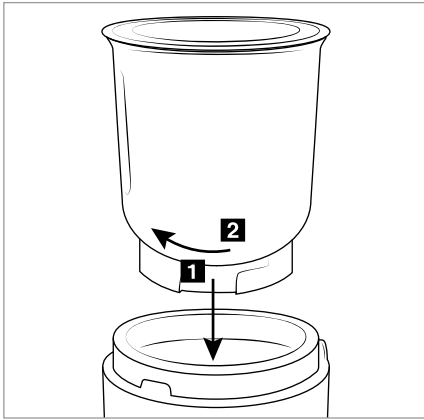

Fig. 1
- 5) Place the container **(3)/(4)** in the motor unit **(5)**: Make sure that the locks inside the motor unit **(5)** match up with the recesses on the base of the container **(3)/(4)** (see Fig. 1/**1**).
- 6) Turn the container **(3)/(4)** so that the locks inside the motor unit **(5)** slide further into the tracks (towards **1**) and the container **(3)/(4)** is locked in place (see Fig. 1/**2**).